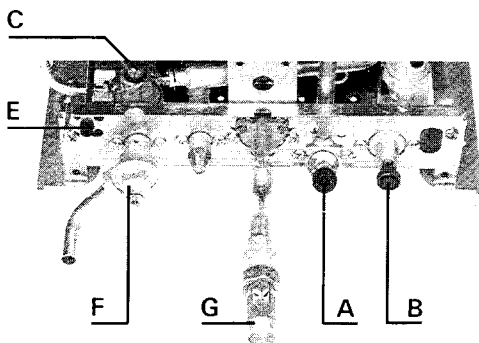

Fig. 57
- b) Isolate boiler from system by closing flow and return valves see section 8.11 (B and C, fig. 57).
- c) Drain boiler (primary side) through safety valve (see section 8.11 (F, fig. 57)).
- d) Remove four hexagon headed screws (A).
- f) Take off electrical connection cover by removing screw (B).
- c) Close heating flow and return valves (B & C) (see section 8.11 (fig. 57))